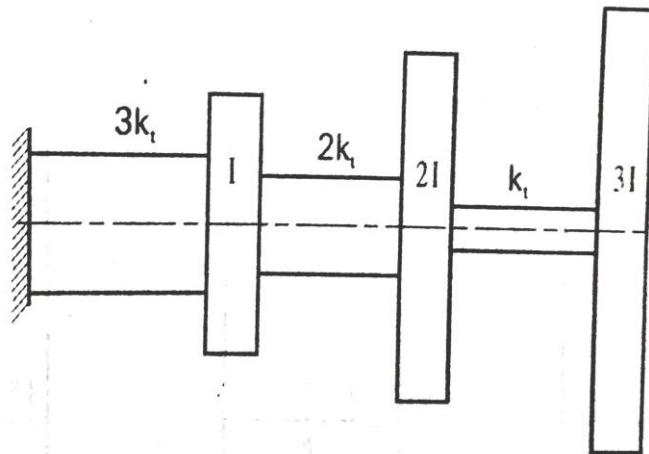

Figure 6b
- b) Using Stodola's method, determine the lowest natural frequency of the torsional system shown in figure 6b